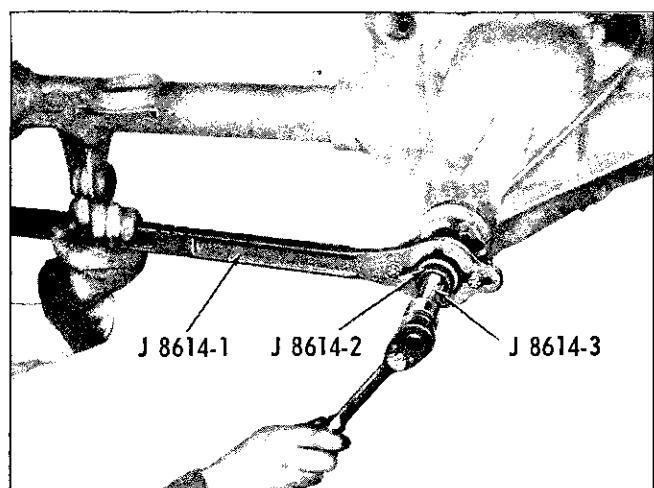

Fig. 4A-8 Removing Companion Flange
9. Lubricate lip of new seal with clean gear lube. Coat outer diameter of seal case with suitable sealer. Install seal by tapping into place, using J 21285-01 (Fig. 4A-9).